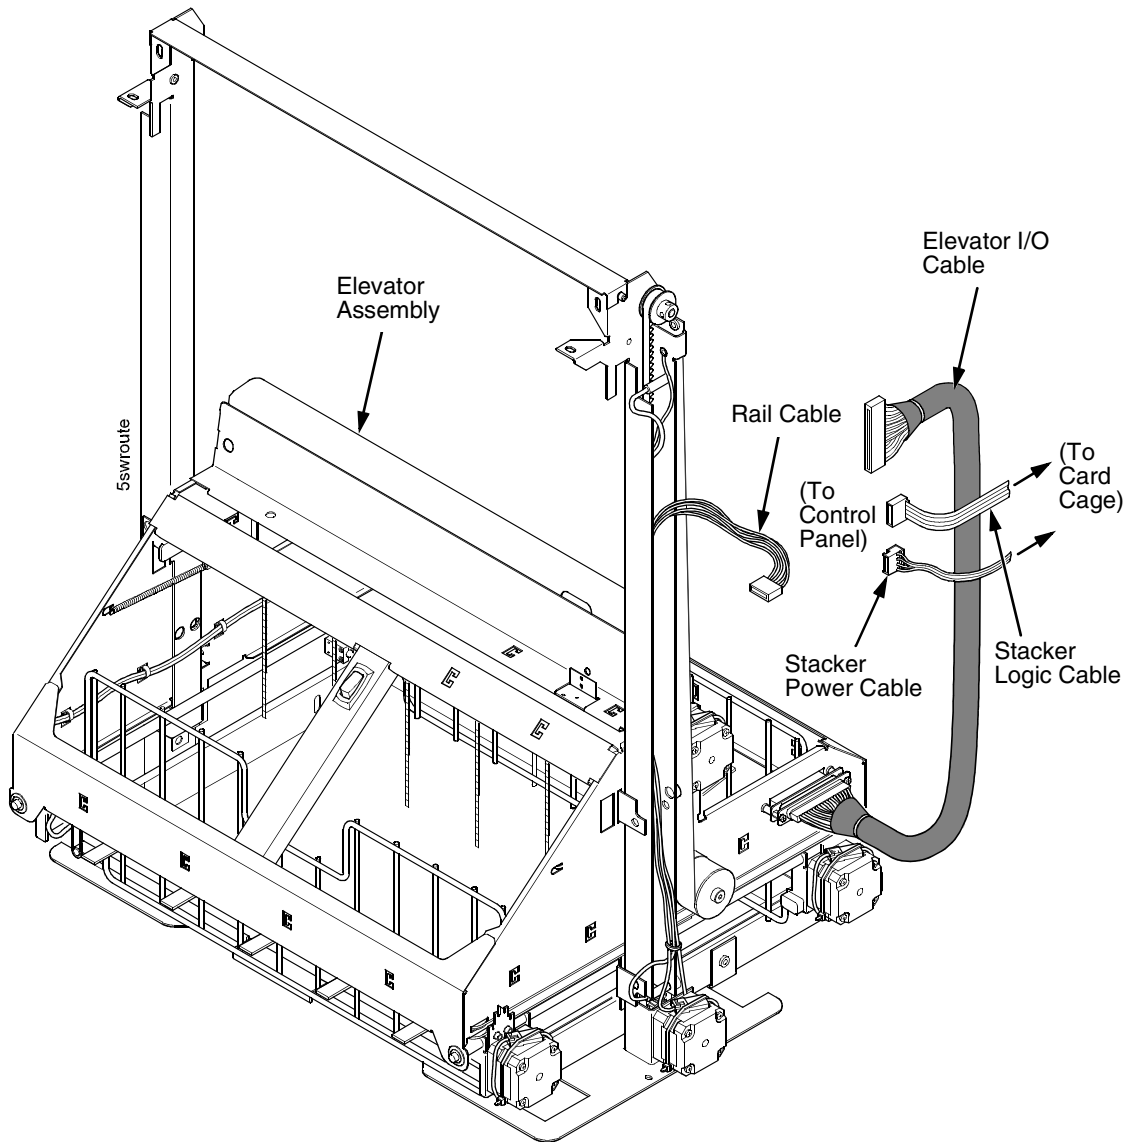

Figure 87. Stacker Cable Routing
21. Gather the stacker rail cable, elevator I/O cable, logic cable, and power cable. Route the cables outboard of the elevator assembly. (Figure 87.)